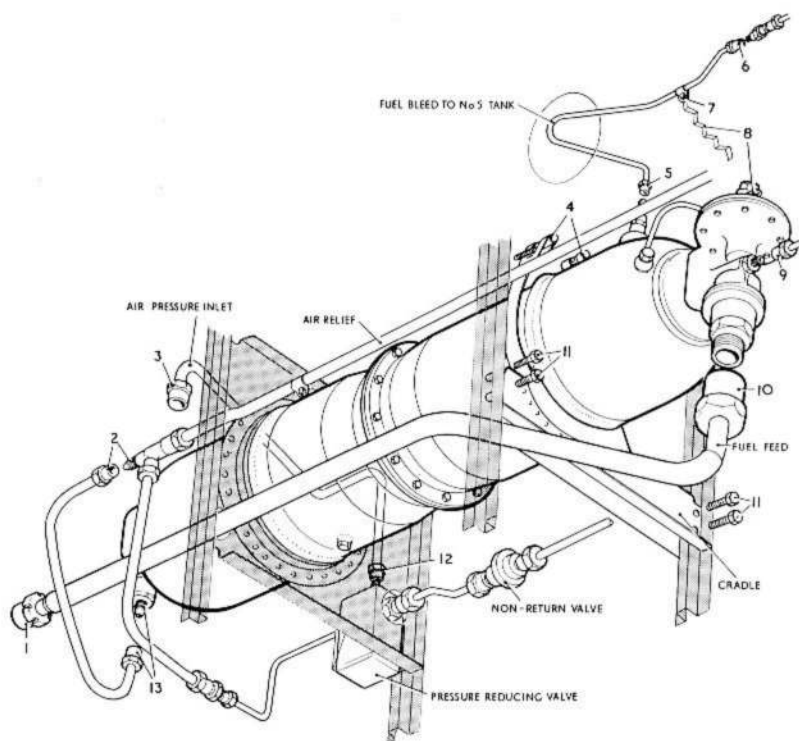

Fig. 20. Recuperator removal
73. To remove a recuperator refer to fig. 20 and proceed as follows:-